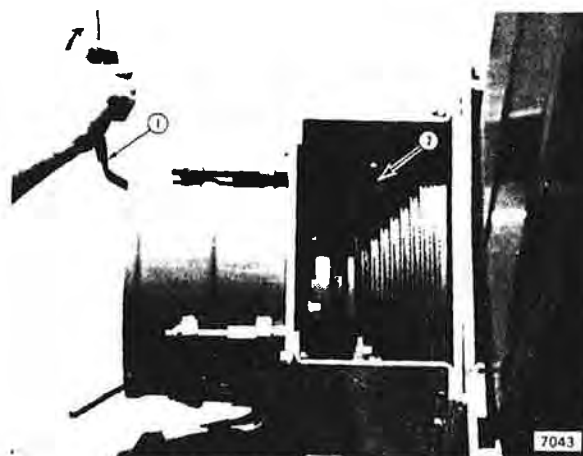

Figure 136
SLOWLY allow the spanner wrench (1, Figure 136) to turn clockwise until there is no tension on the motor springs. While holding the spanner wrench, rotate the cable drum clockwise to completely rewind all cable (2) onto drum.